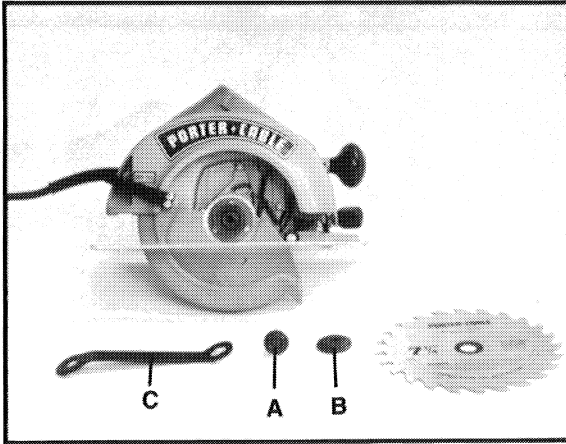

Fig. 1
3. Remove the blade retaining bolt by turning it counterclockwise, with the wrench (C) Fig. 1, furnished with the saw.